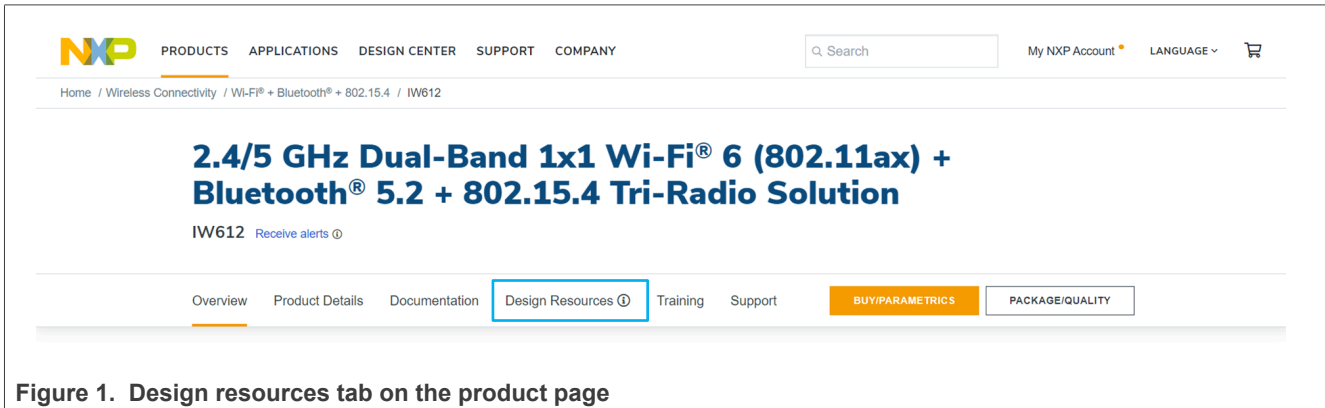

Figure 1. Design resources tab on the product page
- Click **Design Resources** (Figure 1).